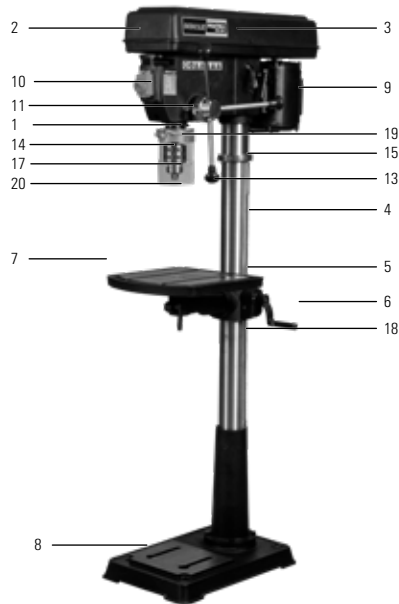

FIGURE 7.1
- Separate all the wrapped parts and compare each of the items with the figure and list of free parts (Figure 7.1 and 7.2)